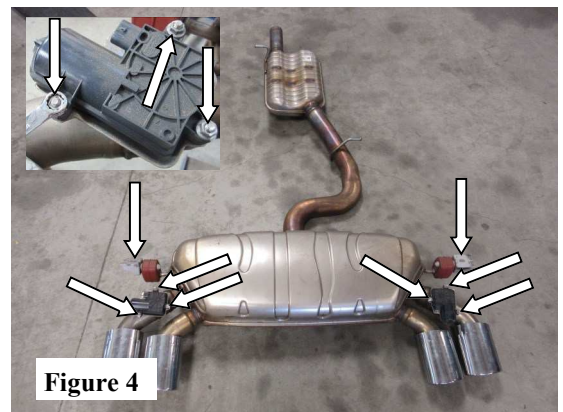

Figure 4
5. Remove and transfer (2) brackets/rubber isolators to your new exhaust. Remove (6) 8mm bolts and transfer (2) electronic valve actuators to your new exhaust system. (See Fig. 4)